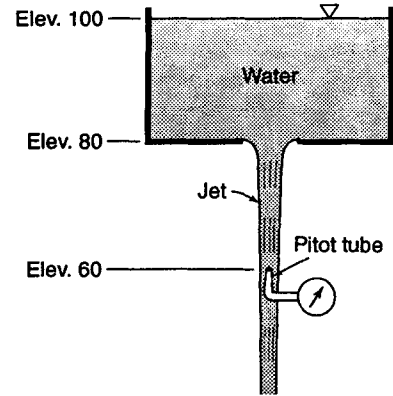

Figure P11.25
11.25 In Fig. P11.25 the orifice at the bottom of the large open tank has a diameter of 1.27 in. If the flow rate is 0.19 cfs, and the pitot tube registers a pressure of 16.8 psi, find the  $C_c$  and the  $C_v$  of the orifice. Neglect air resistance.